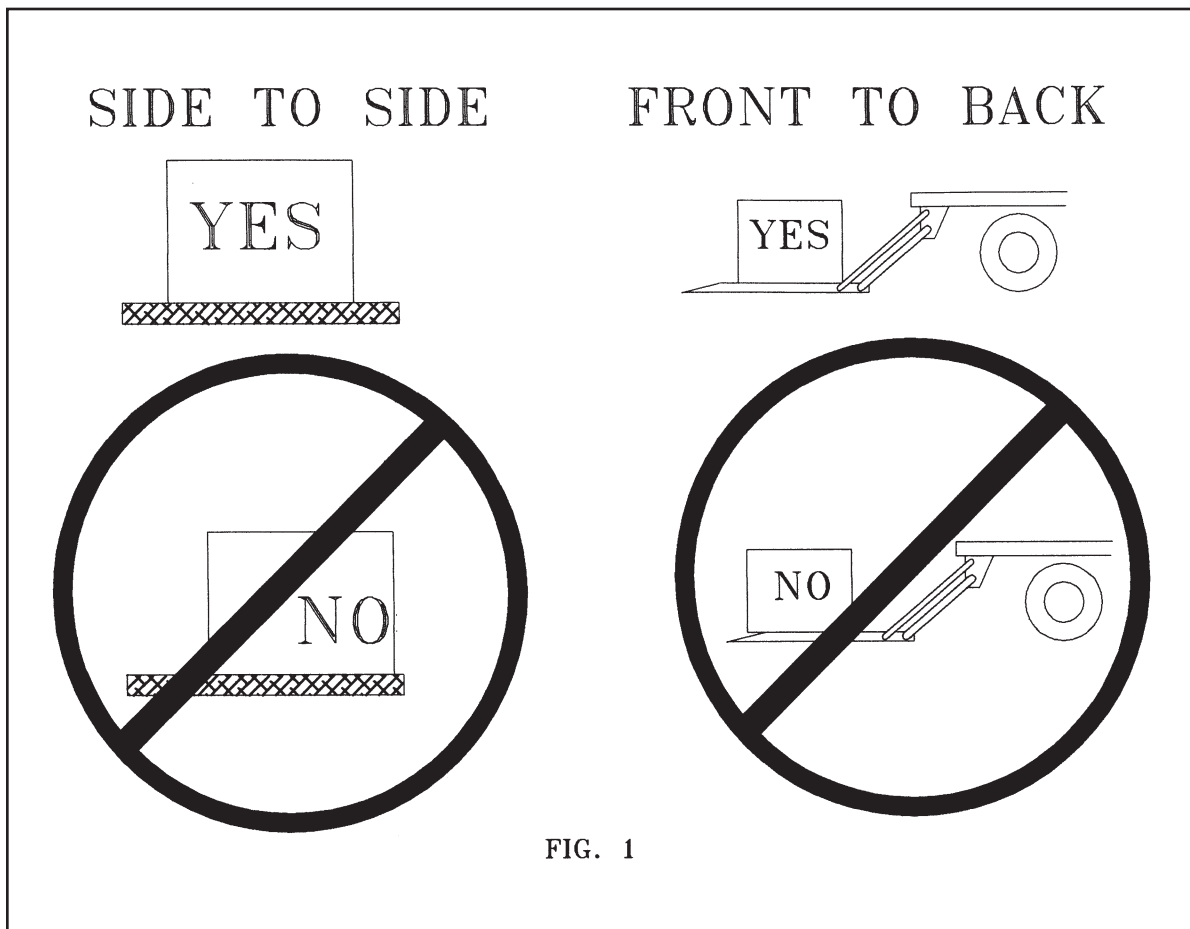

FIG. 1
- + Always load as close to the center of the platform and as close to the truck as possible. See Figure 1.